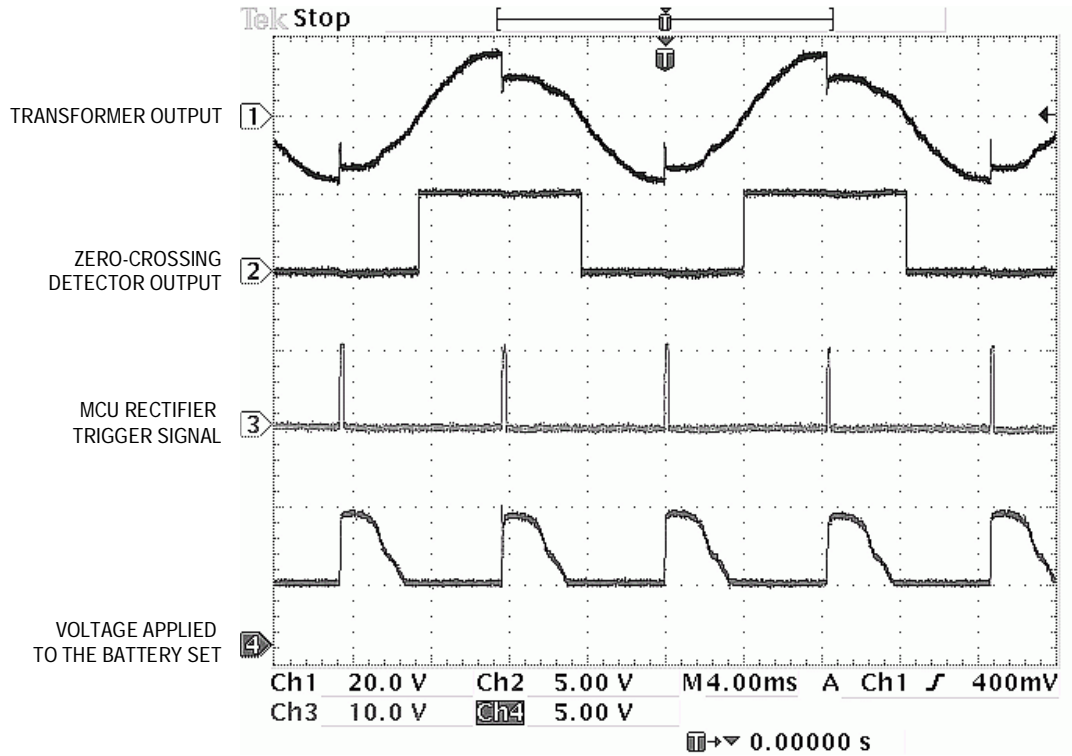

Figure 4. Normal NiCd/NiMH Battery Charge Waveforms
3. The MCU activates the controlled rectifier after the zero-crossing of the ac sinusoidal signal within a user-defined time duration. The system uses the zero-crossing detector circuit to start the MCU timer counter by sensing any level transition in PTA0 and waits to generate the rectifier trigger signal via PTB7. For a 60 Hz ac line frequency, the time duration is set by default to approximately 4 ms to trigger the thyristors at the sinusoidal peak and provide 600 mA full charge current to the battery pack, as illustrated in Figure 4.